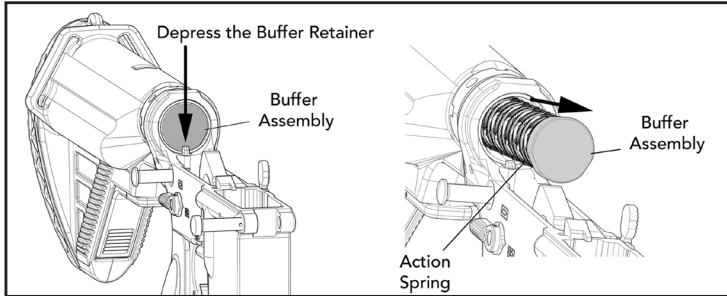

Fig. 50– Removing Buffer Assembly
- a. Depress the buffer detent with the tip of the piston rod and remove the buffer and action spring from the receiver extension (buffer tube) (Fig. 50).